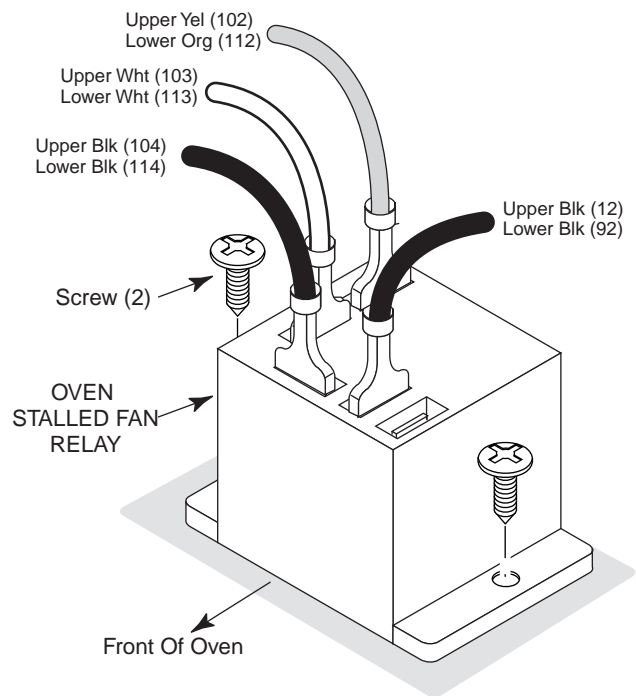

Figure 22
6. **To remove an oven stalled fan relay (see Figure 22):**